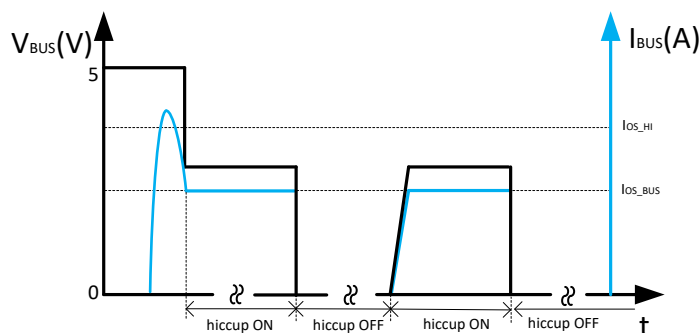

图 10-7. BUS Overcurrent Protection: Two-Level Current Limit
- The third condition is the load current increases just over the  $I_{OS\_HI}$  setting. In this case, the load current does not trigger the fast turnoff. The USB power switch current limit threshold is set back to the primary current limit,  $I_{OS\_BUS}$ , immediately. If the load still demands a current greater than  $I_{OS\_BUS}$ , the USB output voltage decreases to  $I_{OS\_BUS} \times R_{LOAD}$  for a resistive load, which is shown in 图 10-7. If the overcurrent limit condition lasts longer than 4.1 ms, the corresponding USB channel enters hiccup mode with 524 ms of off-time and 4.1 ms of on-time. Another USB channel still works normally.